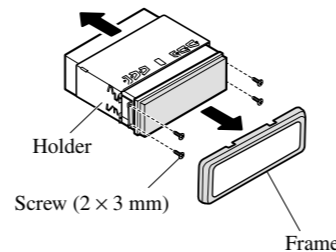

Fig. 14
- **Remove the frame and the holder. (Fig. 14)**